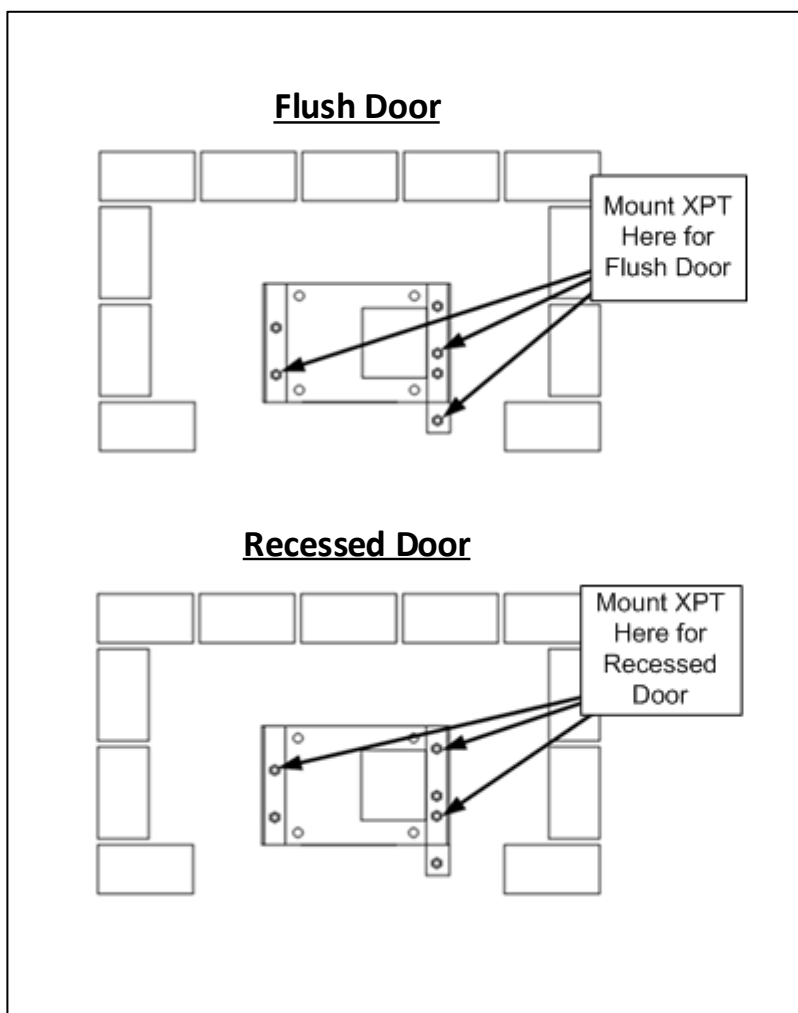

Figure 20. Flush Door and Recessed Door Mounting Options
7. Mount the XPT unit to the adaptor plate by inserting and tightening two bolts through mounting holes on the right side of the XPT case, for either a flush or recessed door configuration (see Figure 20 below).